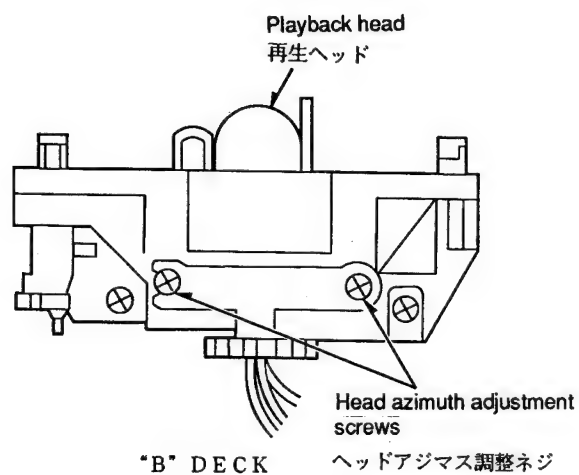

Figure 31
- (3) Insert the test tape into deck B as in deck A and adjust the head azimuth adjustment screws of deck B, as shown in Figure 31, so that the right and left line outputs are maximum and have the same phase in both the normal and reverse direction.